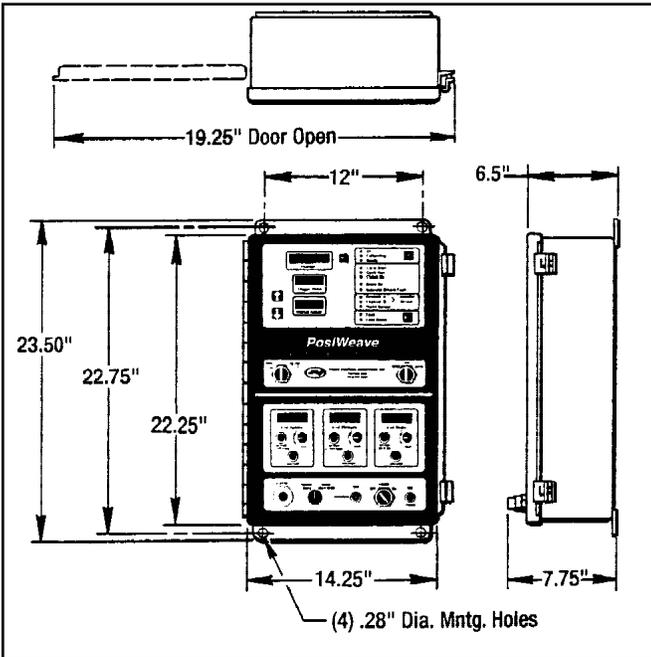

Figure 2.4 - *PosiWeave* Control Box Mounting
(See Figure 2.4)
Mount the *PosiWeave* Control Box in a position accessible to the machine operator and within reach of the (2) yellow Brad-Harrison cables. Mounting should be on a solid structure away from heat and vibration using the mounting holes provided. (See Figure 2-4 for hole size and location.